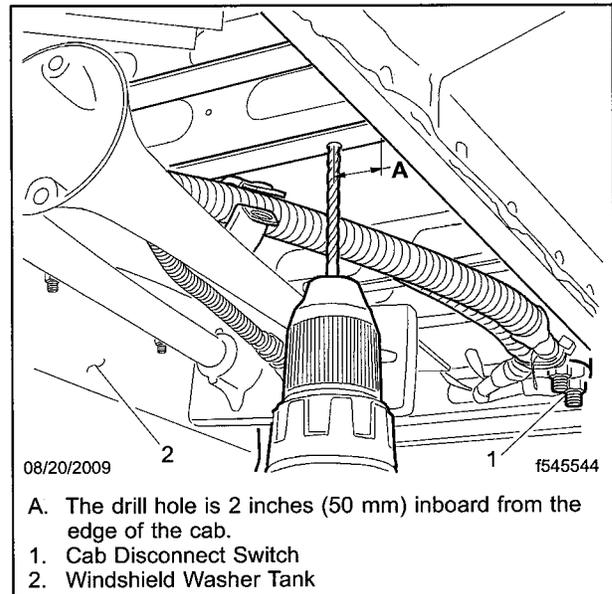

Fig. 4, Drilling the Hole in the Forward Cab Crossmember
13. Drill a 1/4-inch (6-mm) hole on the forward cab crossmember, 2 inches (50 mm) inboard from the edge of the cab. Orient the hole on the rear edge of the crossmember. See **Fig. 4**.